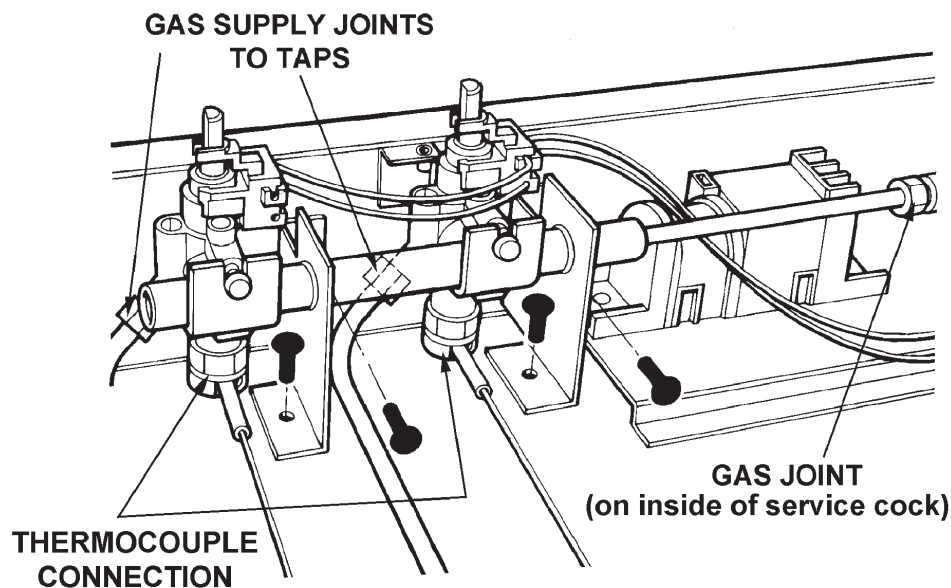

Fig. 6
5. Disconnect gas joint (on inside of service cock) (See Fig. 6). Also disconnect gas supply pipes from both burner bowls.
6. Remove four screws from gas rail support brackets. (See Fig. 6)